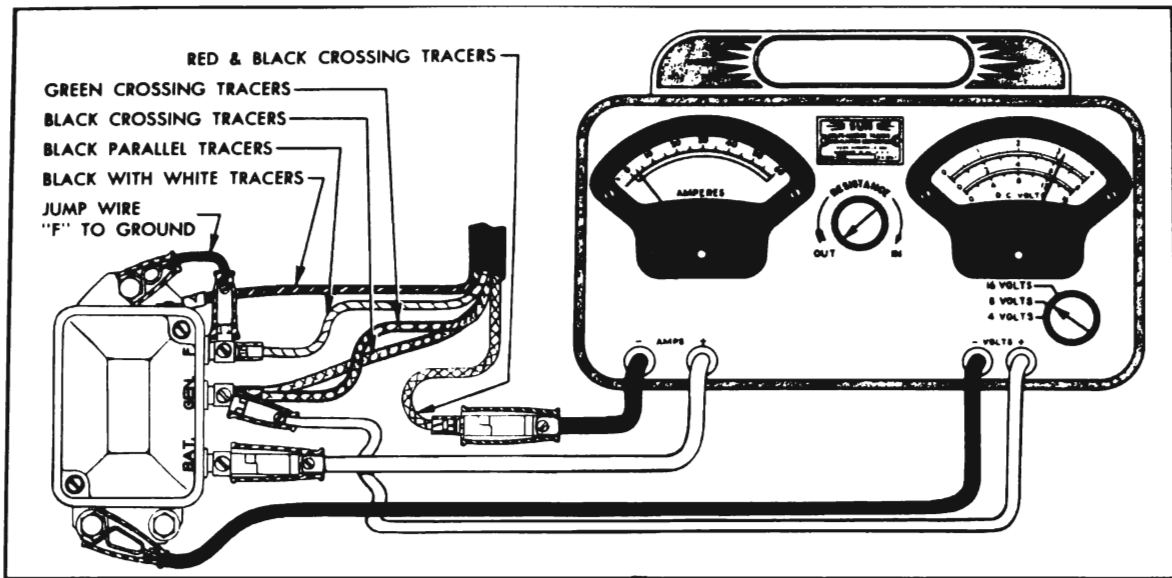

Figure 10-20—Cutout Relay Test Connection—Variable Resistance Method
The following procedure provides tests and adjustments of the cutout relay, voltage regulator, and current regulator in the order named. The required test equipment consists of a voltmeter, ammeter, and $\frac{1}{4}$ ohm variable resistance. In the tester illustrated in figures 10-20,
3. Connect voltmeter test leads to terminal marked "GEN" and to ground on base plate of regulator. See figure 10-20.